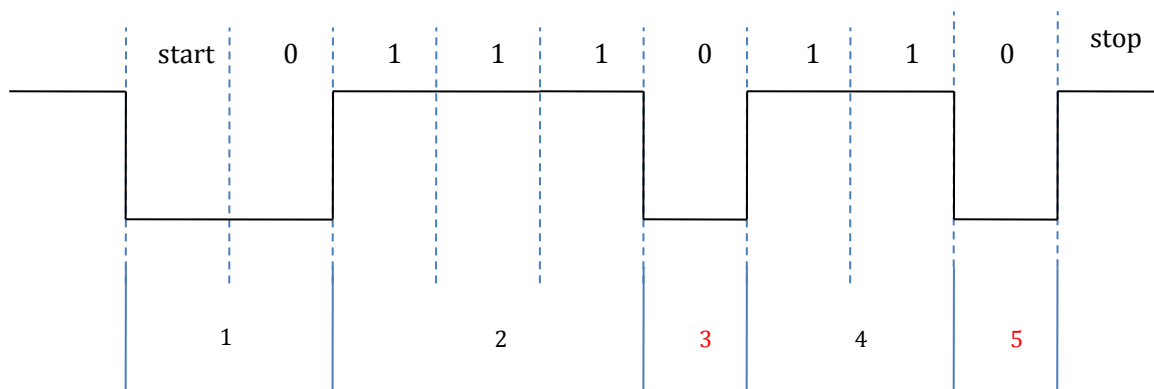

Figure 2: Illustration of Edges Used in Auto-Baud Detection Algorithm
- The elapsed time between the first 6 edges is measured on the RX line (from rise to fall or fall to rise). If the shortest of the 5 elapsed-time periods is between 0.860 usec and 1.302 usec (that is, $(921.6 \text{ kHz})^{-1} \pm 20\%$), the core sets its baud rate to 921.6k. If the shortest period is between 13.889 usec and 20.833 usec (that is, $(57.6 \text{ kHz})^{-1} \pm 20\%$), the core sets its baud rate to 57.6k. Otherwise the auto-detection process starts over again. Figure 2 illustrates the process for a transmitted byte 0x6E, which includes 6 edges and happens to be the first byte of every valid command to the core (see 3.3). Either the period marked #3 or that marked #5 in the figure will be identified as the shortest transition and therefore used to select baud rate.